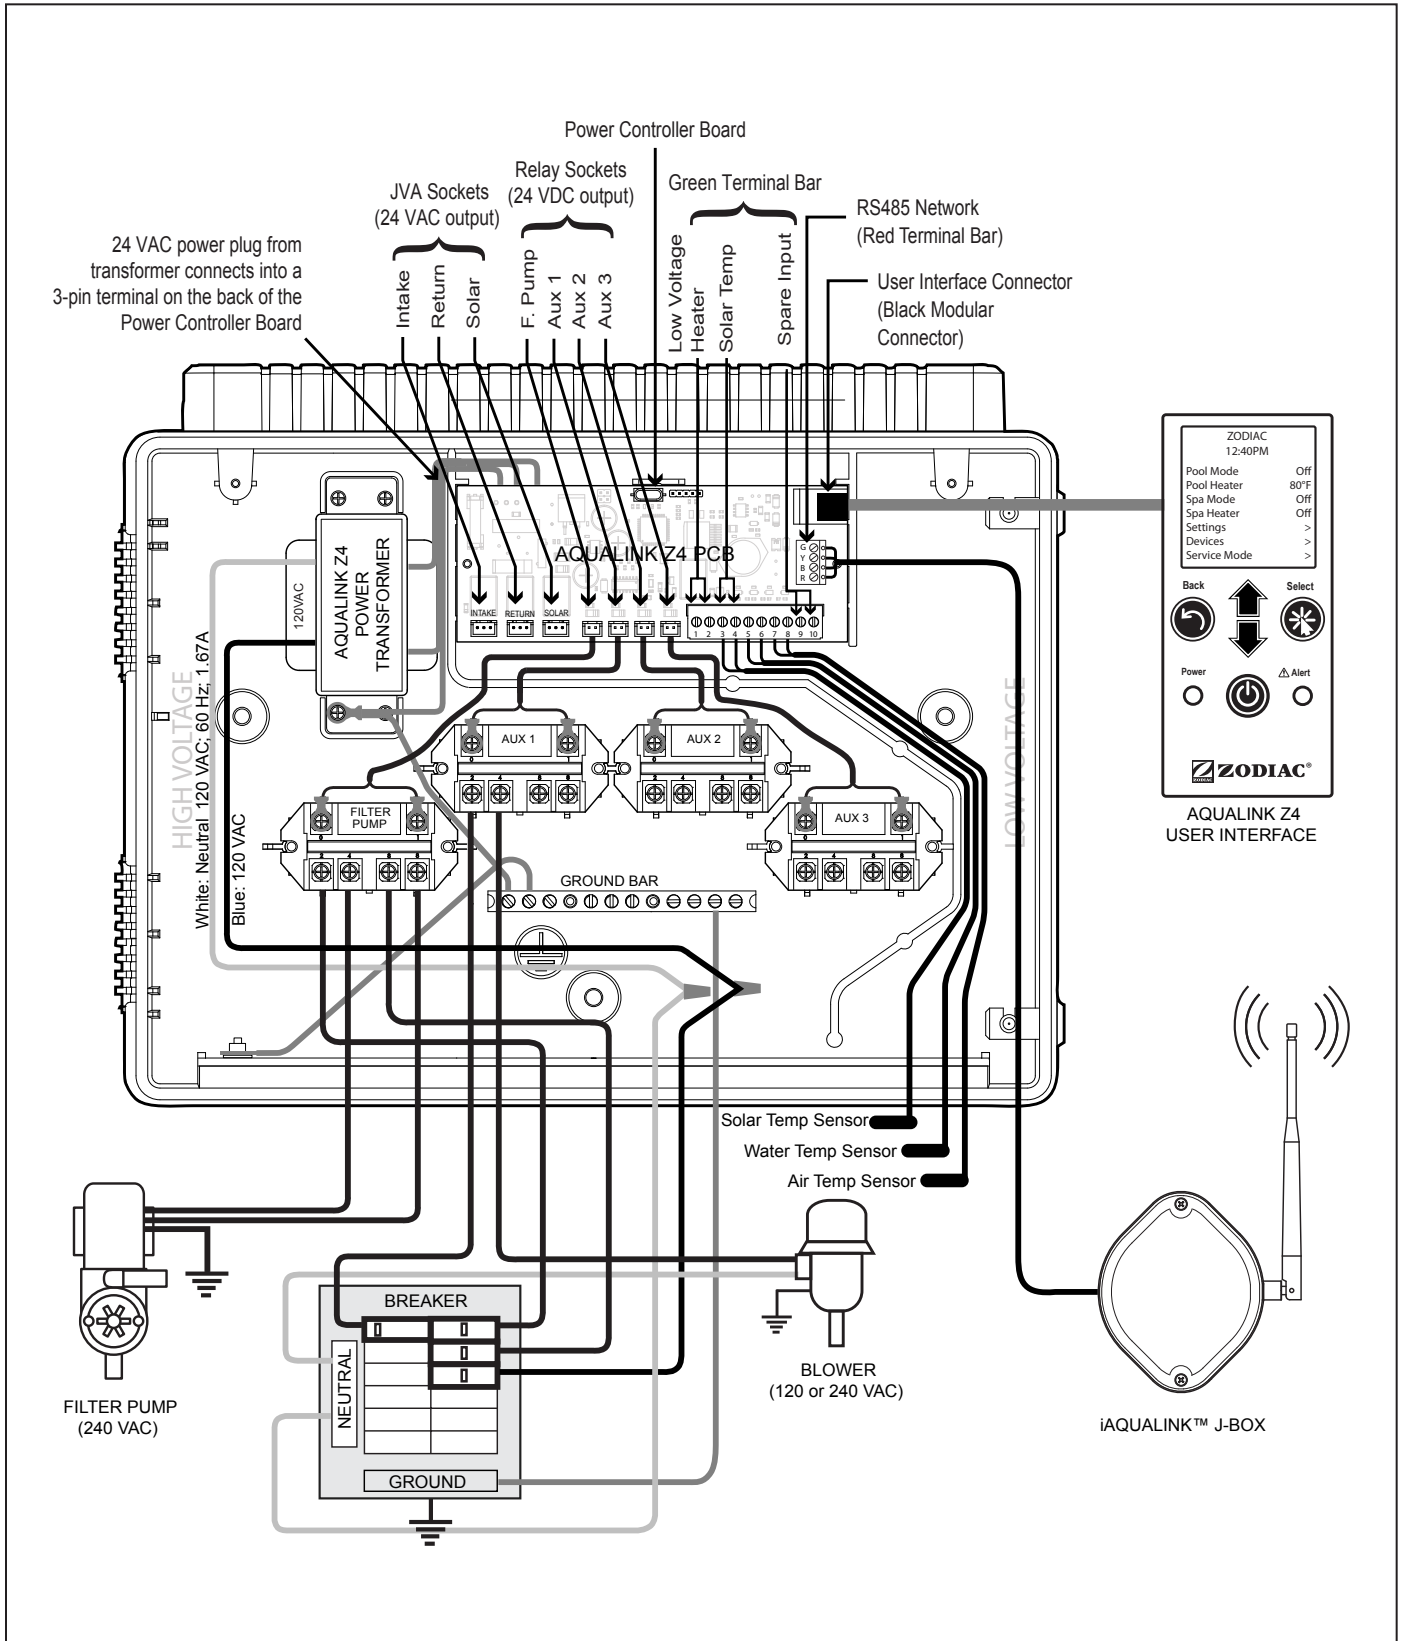

Figure 2. AquaLink Z4 Controller Electrical Wiring Diagram
NOTE: See *Figure 2. AquaLink Z4 Electrical Wiring Diagram* for specific wire locations and connections.
Wire the temperature sensors on the 10-pin green connector (see Figure 2. Wiring Diagram). The air temperature sensor is factory-installed on the 10-pin green connector (pins 7,8). The water temperature sensor and necessary installation hardware is included.
If there is additional low voltage equipment installed, such as low voltage heating, wire to pins 1 and 2 on the 10-pin green connector (see Figure 2. Wiring Diagram).
Wire the iAquaLink device on the red RS-485 connector (see Figure 2. Wiring Diagram).
3. Plug JVAs in as shown in Figure 2. Wiring Diagram.